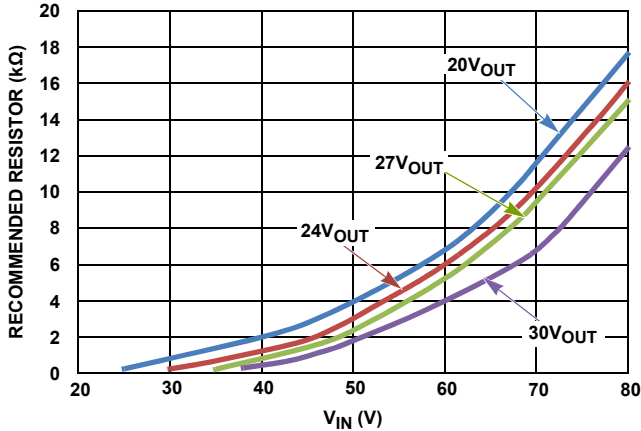
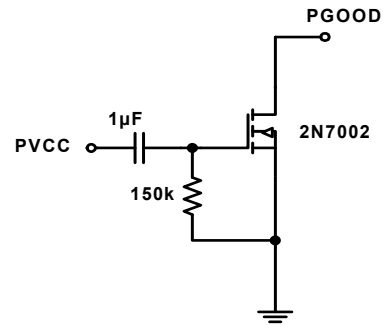

FIGURE 23. RECOMMENDED EXTERNAL RESISTOR VALUE FROM BOOT TO PVIN
FIGURE 25. PGOOD DELAY CIRCUIT
The internal bootstrap diode connected to the PVCC pin provides charge for the internal bootstrap capacitor. For above 12V_{OUT} applications, a resistor connecting between BOOT pin and VIN pin is recommended for certain conditions. Refer to Table 3. This resistor provides additional bootstrap charge introduced from VIN, which can ensure the gate drive circuit functions properly at very light load. See Figure 23 for the recommended external resistor values at 20V_{OUT}, 24V_{OUT}, 27V_{OUT}, and 30V_{OUT} conditions. A minimum 0.25W power rating is recommended for this resistor.
For >12V_{OUT} applications where VIN power-up/down (module self enable/disable) is required and PGOOD signal is utilized, a PGOOD delay circuit and a 1kΩ, 1W rating dummy load resistor are recommended. The PGOOD delay circuit is shown in Figure 25. Note when the dummy load resistor is used, the resistor between VIN and BOOT (Figure 23) is no longer required. During VIN power-up (module self enable) for >12V_{OUT} applications at very light load current, without such a delay circuit, V_{OUT} may have a drop after initially reaching the target due to the lack of bootstrap charge. With such a delay circuit, the PGOOD signal can be delayed for 250ms. For applications of ≤12V_{OUT}, the PGOOD delay circuit is not required.
- Refer to Figure 23 for V_{IN} -BOOT resistor (R_{BOOT}) value.